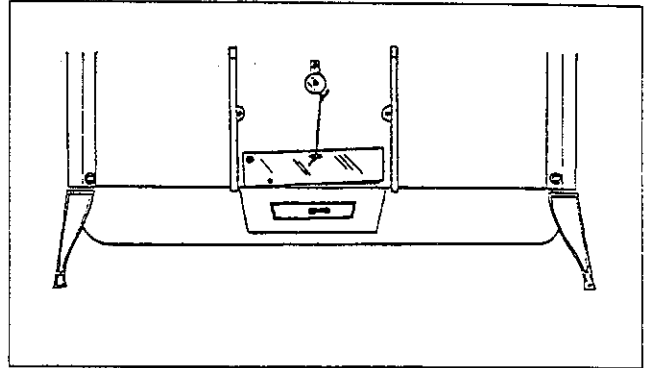

Figure 12. Secondary air probe installation
24. Install the secondary probe assembly. **Figure 12** for positioning guidance.